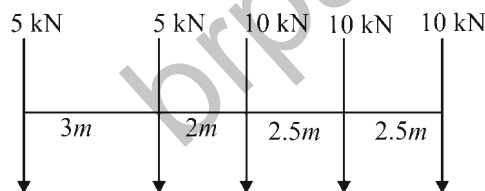

Figure 3
4. Following system of concentrated loads as shown in figure 3, move over a simply supported girder having span 30 m, with 10 kN load leading. Determine absolute maximum shear force and absolute maximum bending moment in the girder.